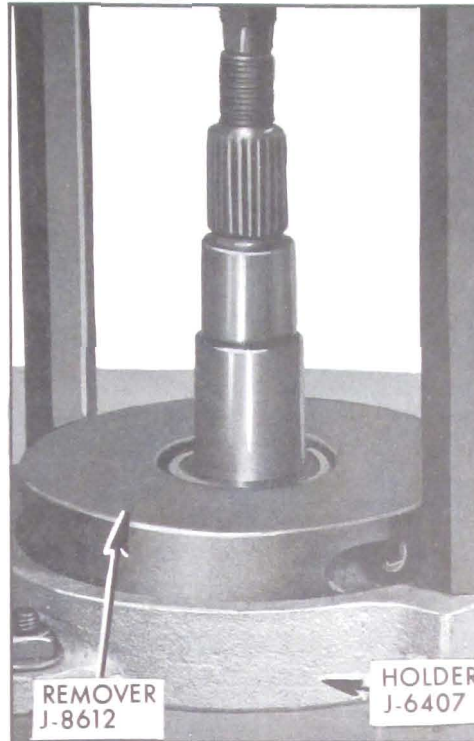

Fig. 6-16—Removing Rear Pinion Bearing
1. If rear pinion bearing is to be replaced, remove rear pinion bearing from pinion shaft using Remover J-21493 with Holder J-6407. See Figure 6-16.